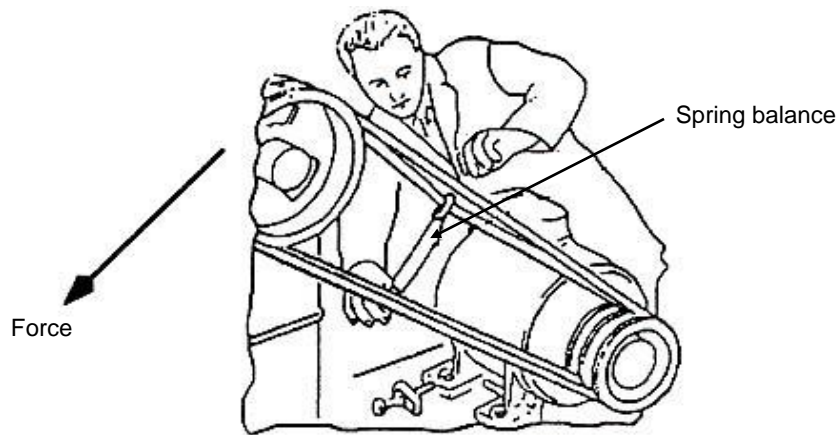

FIG 6.
- C. Attach a spring balance to this point. (Fig 6)